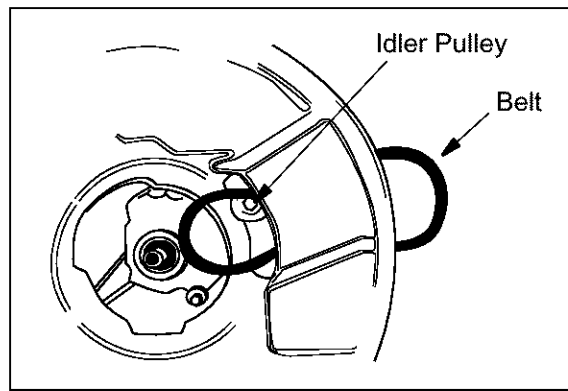

Figure 16
- Push the idler pulley up and out of the way. See Figure 16.